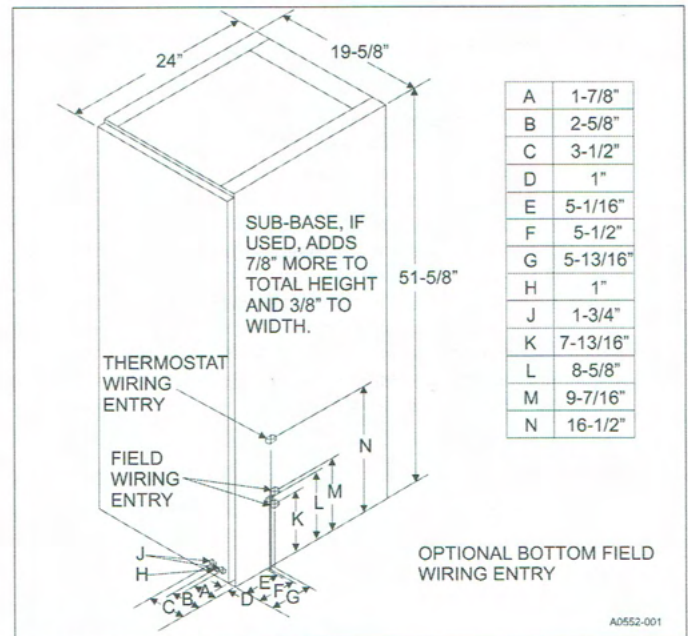

FIGURE 1: Furnace Dimensions
- Furnace size is the same for all models. See Figure 1.